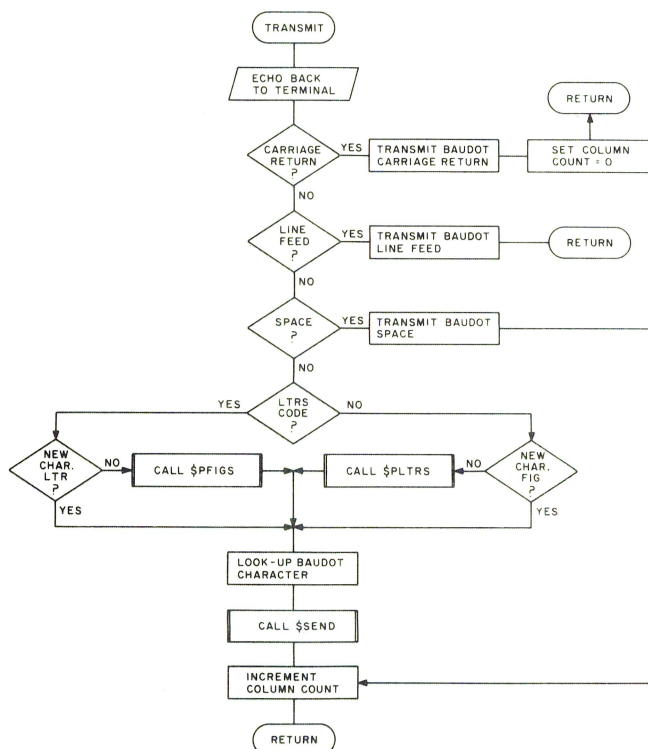

Fig. 6. Transmit subroutine.
invalid, the program gets the next character from the terminal using a console driver routine called \$RCHAR. If the ASCII character is not the ESC key code, then the program calls the subroutine XMIT; otherwise, it branches to the receiver program. A flowchart of the XMIT subroutine is shown in Fig. 6. After being called, this subroutine immediately echoes the character back to the terminal for display using the console driver subroutine \$WCHAR. XMIT then compares the ASCII character with the character for carriage return (CR), line feed (LF), or space. If any of these tests is valid, the valid character is converted to Baudot and transmitted. The CR test sets the column count to zero and returns to